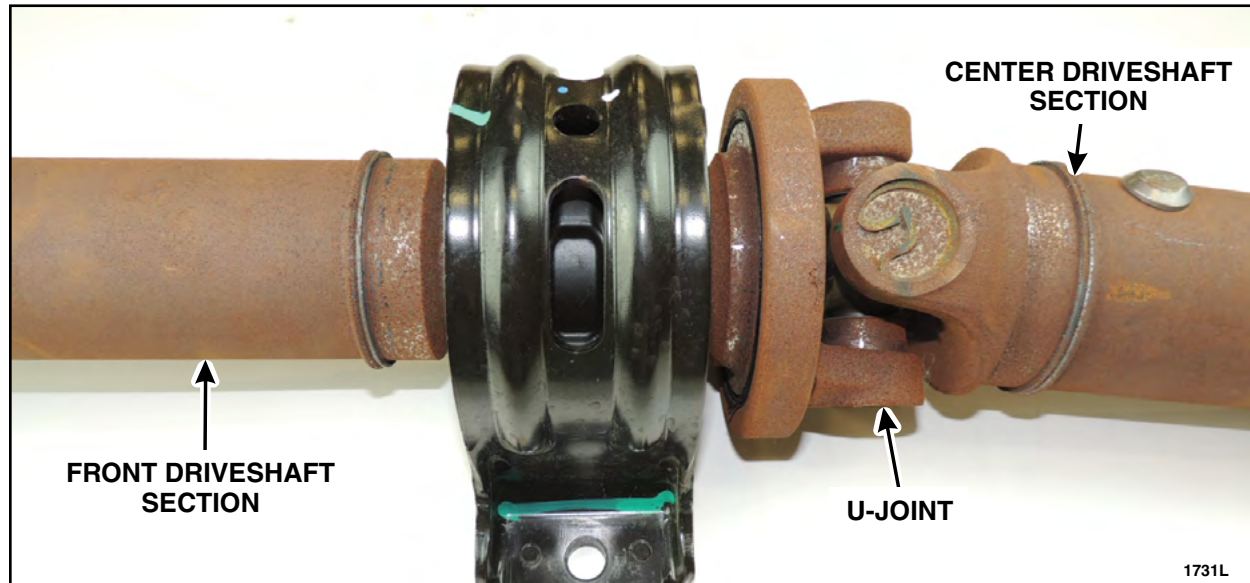

FIGURE 18
1. Remove and discard the four snap rings and center u-joint to separate the front driveshaft section from the center section. Please follow the Universal Joint Kit Installation Instructions. See Figure 18.